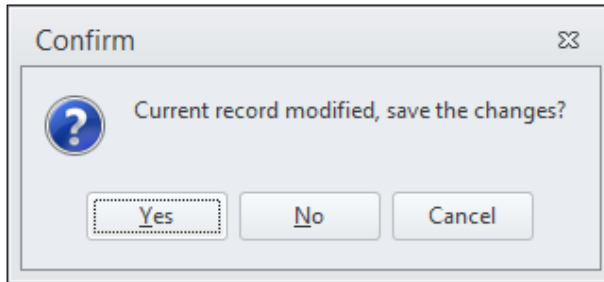

Figure 74 Link tax modification
- 3) To add a new tax, the user must know the start (A) and end (B) node for the link in the network. To visualize the network, open the Input_Data.mxd file, e.g. from the Data Section window. The A and B node numbers can be accessed e.g. by selecting the link with the Select Features tool and looking in the Feature Explorer window;
- 4) Close the Tax by Link table by clicking the “X” icon in the top right corner and click “Yes” to the question, see Figure 74.